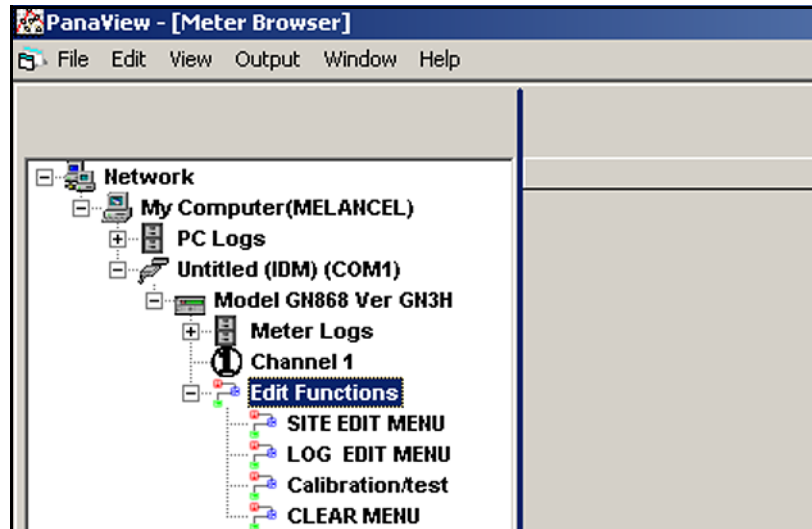

Figure 35: Meter Tree - Edit Functions Option
- From the meter tree, expand the *Edit Functions* option. A screen similar to *Figure 35* below opens, with a list of available menus. The menus listed are those available on the meter.
**Note:** The options listed in the left pane correspond to the options available for the meter selected in *Figure 35* above.